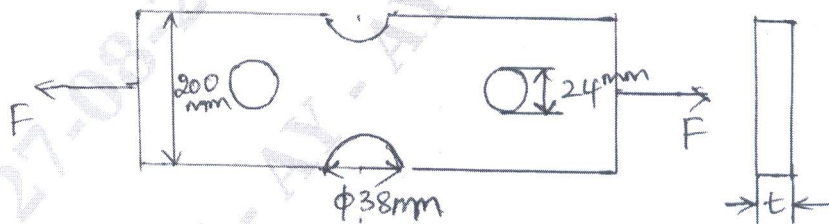

Fig. Q2 (b)
- b. A bar of rectangular cross section is subjected to a tensile load of 90 kN as shown in Fig. Q2 (b). Calculate its thickness if the allowable tensile stress in the bar is 120 MPa. (08 Marks)